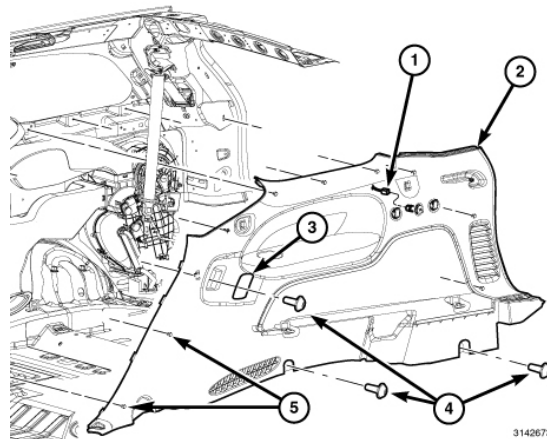

Figure 25 – Quarter Panel Trim
- 44. Using a small flat bladed tool, remove the screw caps (3) from the quarter panel trim panels (Figure 25).
- 45. Remove the screws (4) (Figure 25).
- 46. Using a trim stick, disengage the retaining fasteners (5) that secure the quarter trim panels to the quarter panels (Figure 25).
- 47. Pull the quarter trim panels away from the quarter panels (Figure 25).
- 48. If equipped, disconnect the power outlet wire harness connector (1) (Figure 25).
50. Remove the quarter trim panels (2) (Figure 25).
86. Position the quarter trim panels (2) to the vehicle (Figure 25).
88. If equipped, connect the power outlet wire harness connector (1) (Figure 25).
89. Press the quarter trim panels into place on the quarter panels (Figure 25).
90. Engage the retaining fasteners (5) that secure the quarter trim panels to the quarter panels (Figure 25).
91. Install the screws (4) (Figure 25).
92. Install the screw cap (3) from the quarter panel trim panels (Figure 25).